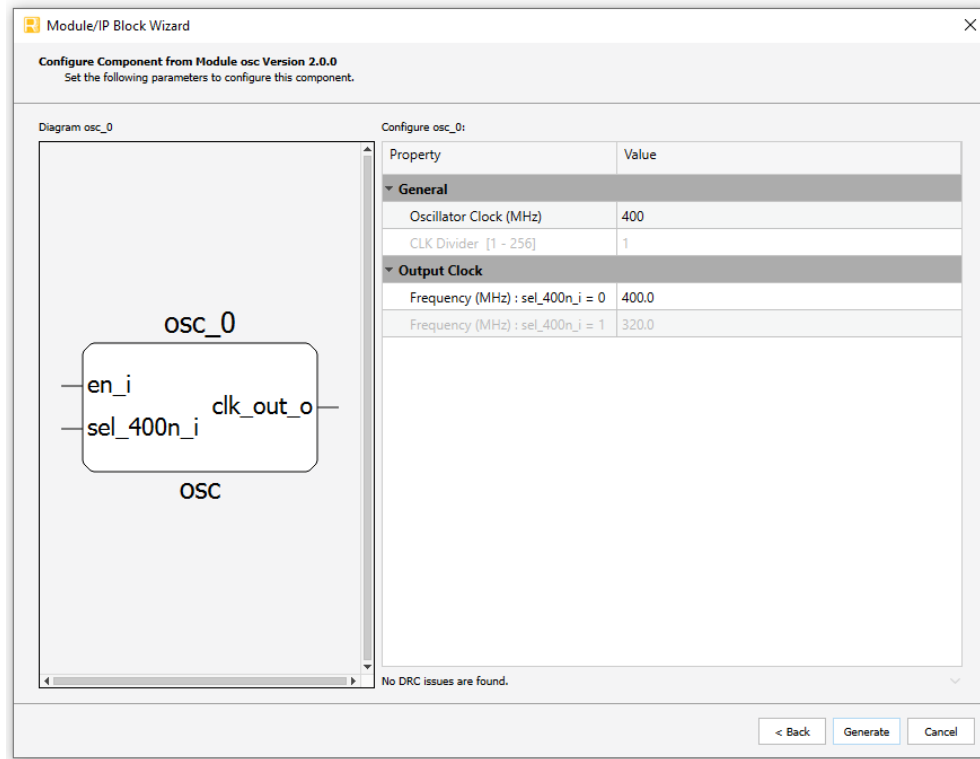

Figure 3.2. Configure User Interface of OSC Module
3. In the module's dialog box of the **Module/IP Block Wizard** window, customize the selected OSC Module using drop-down menus and check boxes. As a sample configuration, see Figure 3.2. For configuration options, see the Attribute Summary section.